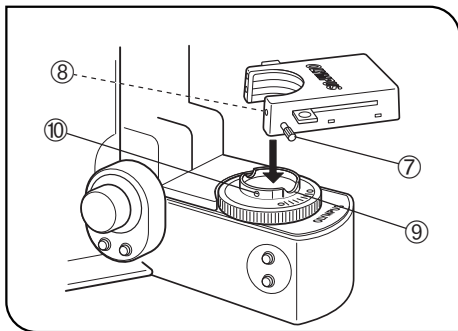
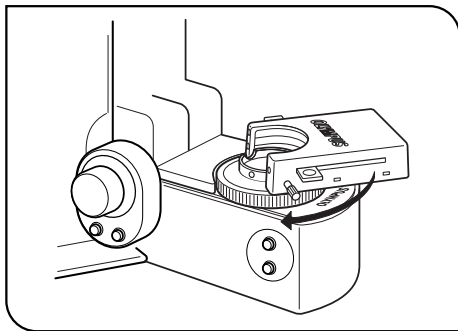

Fig. 9
Fig. 10
1. Fully loosen the filter cassette clamping screw ⑦. (Fig. 9)
2. Align the key ⑧ on the bottom surface of the filter cassette with the positioning slot ⑨ on the filter mount, then snap the filter cassette into place from above.
3. Rotate the filter cassette to align its sides with the base. (Fig. 10)
4. Align the clamping screw ⑦ with the positioning hole ⑩ on the filter mount, then tighten the screw to fasten the filter cassette.